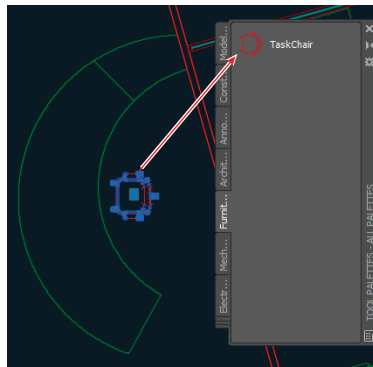

FIGURE 9.22 Creating a tool on a new palette by dragging a chair block onto it
3. Select the receptionist's chair. Drag this chair (not using a grip) onto the Furniture palette. TaskChair appears with a preview icon (see Figure 9.22).